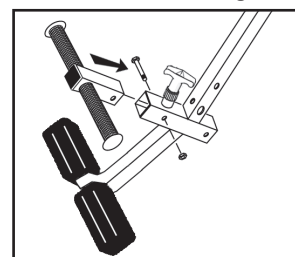

Figure 3
- Attach the Conversion Bar by inserting the bolt removed in Step Two through the holes located at the front of the ankle clamp housing underneath the T-Pin (Figure 3).